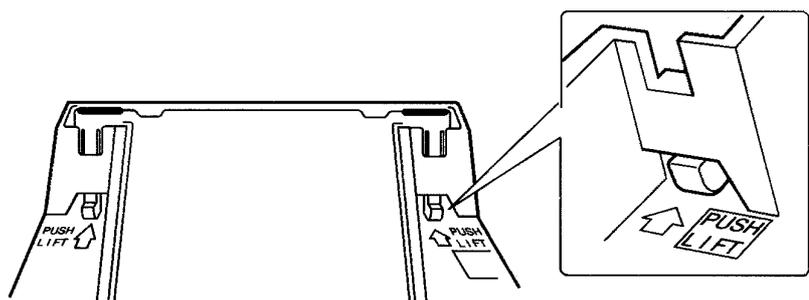

Figure 7-1 Raising the Base Plate
2. Turn the terminal upside down. Push the tabs indicated in *Figure 7-1 Raising the Base Plate*, and raise the inner area of the base plate.